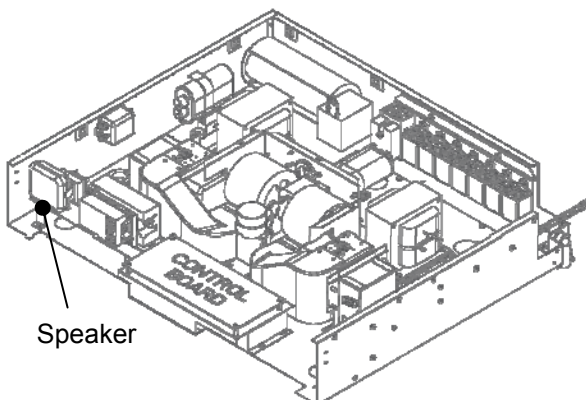

Figure 3: Residential Gen 1 Speaker Location
3. Access the failed speaker (Figures 3 and 4).